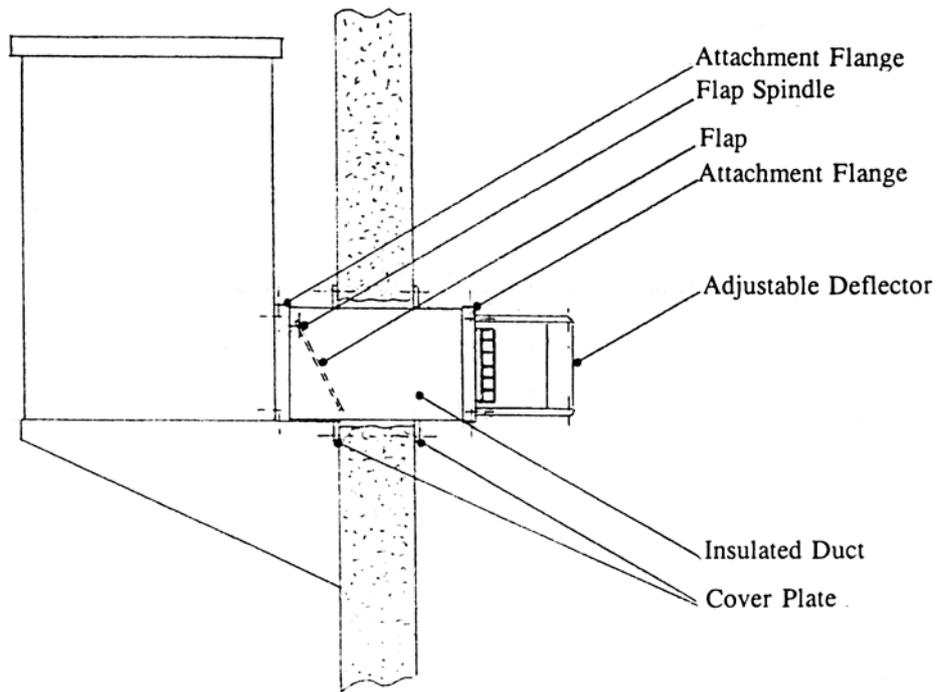

Fig. 2
- 3.1.4 Insert the Insulated Duct through the aperture cut previously in the wall of the building, ensuring that the flap inside the duct is positioned adjacent to the appliance, with its pivot spindle uppermost (see Fig 2).
- 3.1.7 Locate one Cover Plate around Insulated Duct, on outside of building and fasten to the wall of the building with suitable fasteners (see Fig 2).
- 3.1.8 Locate second Cover Plate around Insulated Duct on inside of building, and fasten to the wall of the building with suitable fasteners (see Fig 2).